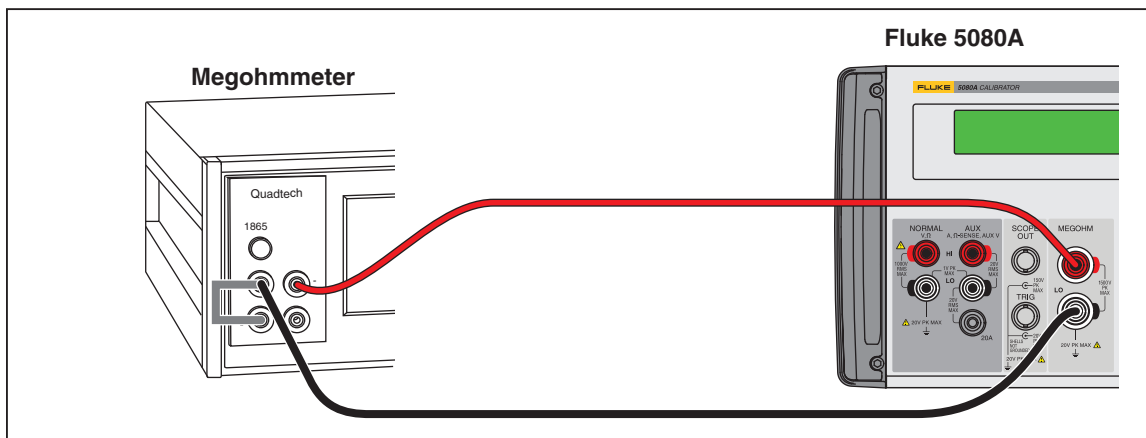

Figure 6. High Resistance Verification for 1 GΩ and higher
6. Connect the Calibrator directly to the megohmmeter as shown in Figure 6. Make sure you reverse the polarity.